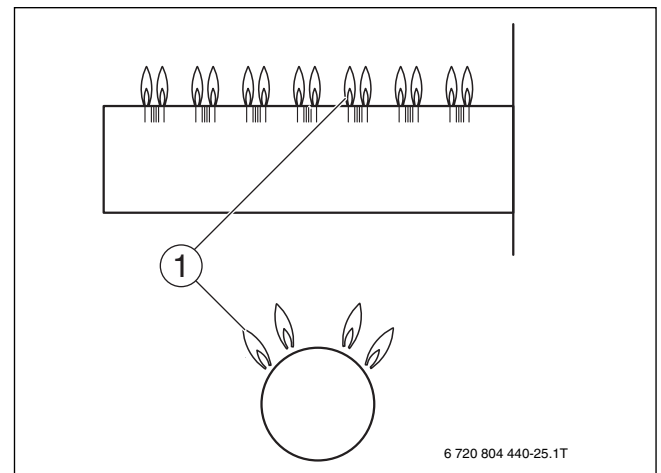

Fig. 25 Main burner
- ▶ Test the flame rod by closing the gas shut-off. The main burner flame (→ figure 25) and the ignition flame are extinguished. After no more than six (6) seconds the main gas solenoid valve on the gas valve must close with an audible noise. If the gas valve does not operate correctly, turn ON/OFF knob on the gas valve clockwise to the OFF position immediately. Close the main gas shut-off and disconnect the heating system from the main power source and contact the customer service technician or the gas company.